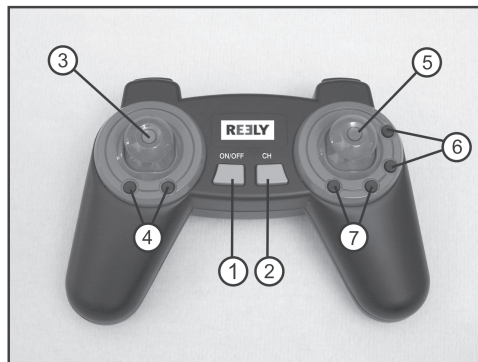

Figure 4
- Resets the trims at the transmitter to „0“. For this, push the two associated trim buttons for yaw, pitch and roll (also see figure 4, items 4, 6 and 7) in sequence until neutralisation of the trimming is confirmed with a double sound signal.